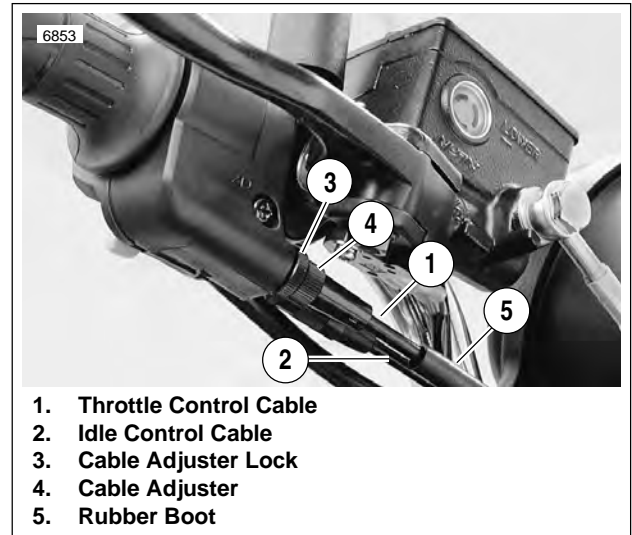

Figure 2-52. Throttle Control Cables
1. See Figure 2-52. Slide rubber boot off the cable adjusters. Loosen cable adjuster lock on each adjuster.